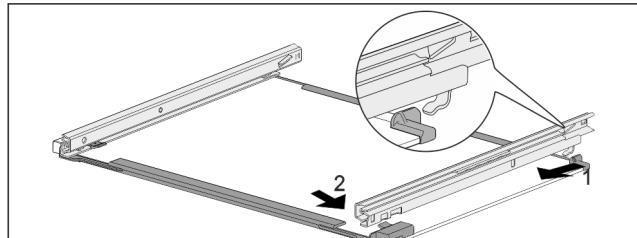

Fig. 111 Glass shelf with rails
- ▶ Hook in rail at the back. Fig. 111 (1)
- ▶ Hook in rail at the front. Fig. 111 (2)